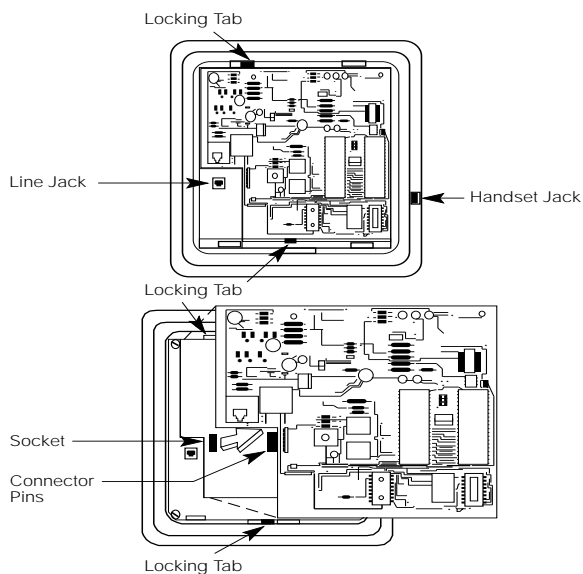

Figure 3-8. Removing an MFM Module
- 4. To install a new MFM, go to Step 5. To reset jumpers on an existing MFM, go to Step 6. To remove an existing MFM, continue (see Figure 3-8).